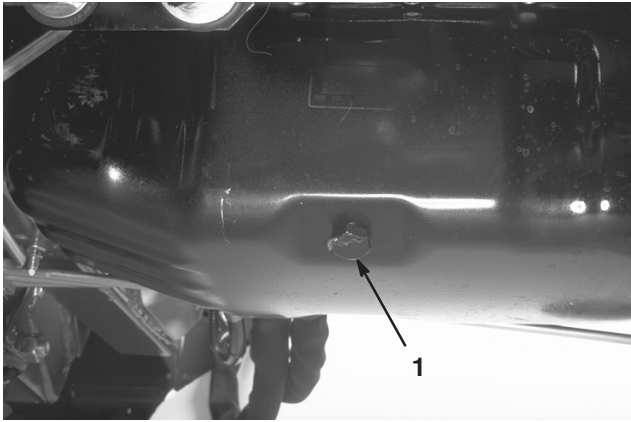

Figure 38
2. Place drain pan in line with the drain plug (Fig. 38). Clean area around drain plug.